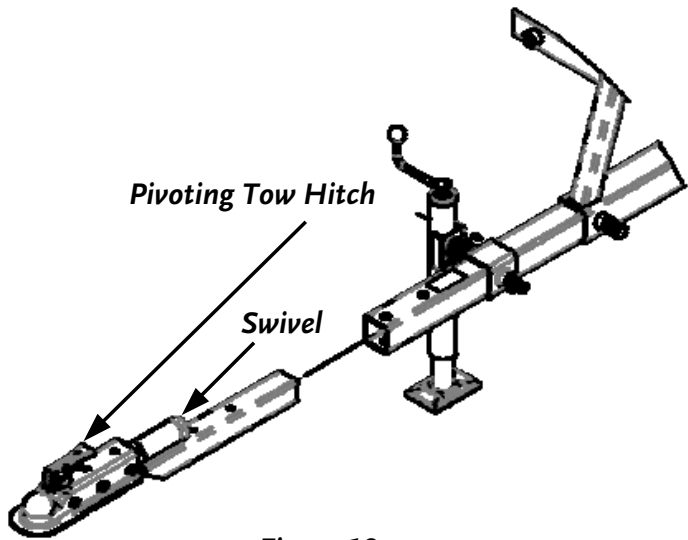

Figure 19
6. Install the Pivoting Tow Hitch (**Figure 19**) into the Tow Beam with the Swivel facing upward.